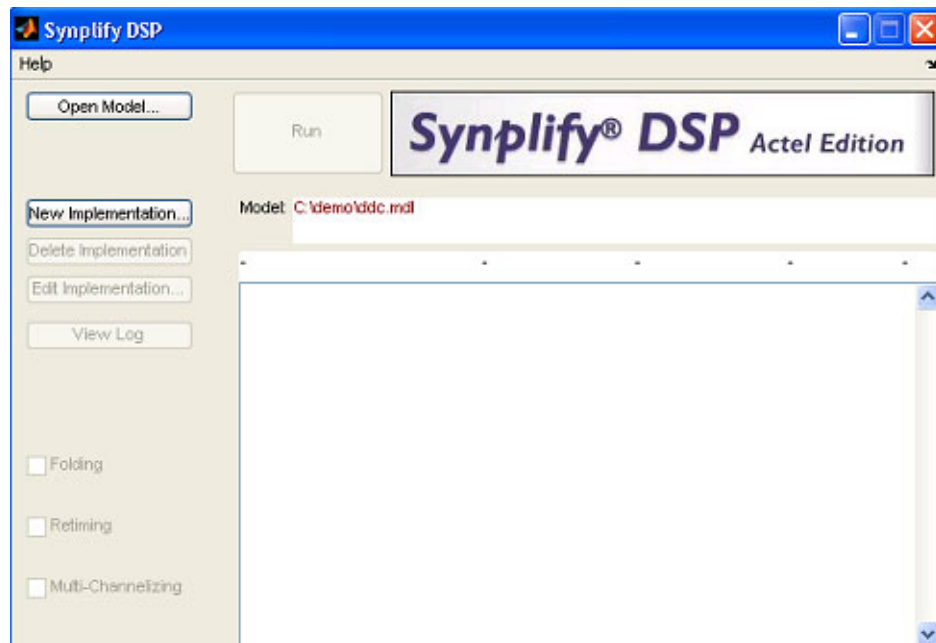

Figure 2-3. Synplify DSP User Interface
4. Double-click the SynDSPTool inside the model file and launch the Synplify DSP AE v.3.4.1A tool, as shown in Figure 2-3.